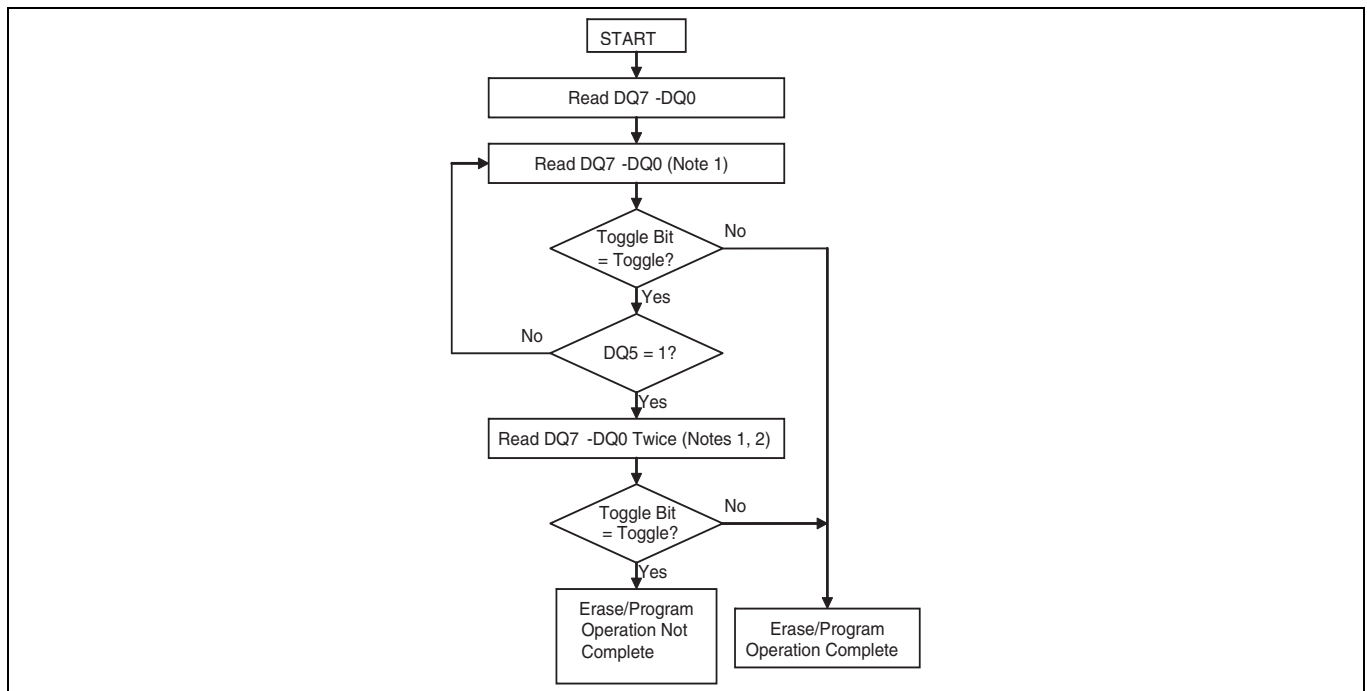

Figure 8 Toggle bit program
**Table 15** shows the outputs for Toggle Bit I on DQ6. **Figure 8** shows the toggle bit algorithm in flowchart form, and the **“Reading Toggle Bits DQ6/DQ2”** on page 40 explains the algorithm. **Figure 8** shows the toggle bit timing diagrams. **Figure 4** shows the differences between DQ2 and DQ6 in graphical form. See also **“DQ2: Toggle Bit II”** on page 40.
DQ2 toggles when the system reads at addresses within the sector selected for erasure. (The system may use either OE# or CE# to control the read cycles). But DQ2 cannot distinguish whether the sector is actively erasing or is erase-suspended. DQ6, by comparison, indicates whether the device is actively erasing, or is in Erase Suspend, but cannot distinguish if the sector is selected for erasure. Thus, both status bits are required for sector and mode information. Refer to **Table 15** to compare outputs for DQ2 and DQ6. **Figure 7** shows the toggle bit algorithm in flowchart form, and the **“Reading Toggle Bits DQ6/DQ2”** on page 40 explains the algorithm. See also **Figure 8** shows the toggle bit timing diagram. **Figure 4** shows the differences between DQ2 and DQ6 in graphical form.
The remaining scenario is that the system initially determines that the toggle bit is toggling and DQ5 has not gone HIGH. The system may continue to monitor the toggle bit and DQ5 through successive read cycles, determining the status as described in the previous paragraph. Alternatively, it may choose to perform other system tasks. In this case, the system must start at the beginning of the algorithm when it returns to determine the status of the operation (top of **Figure 8**).